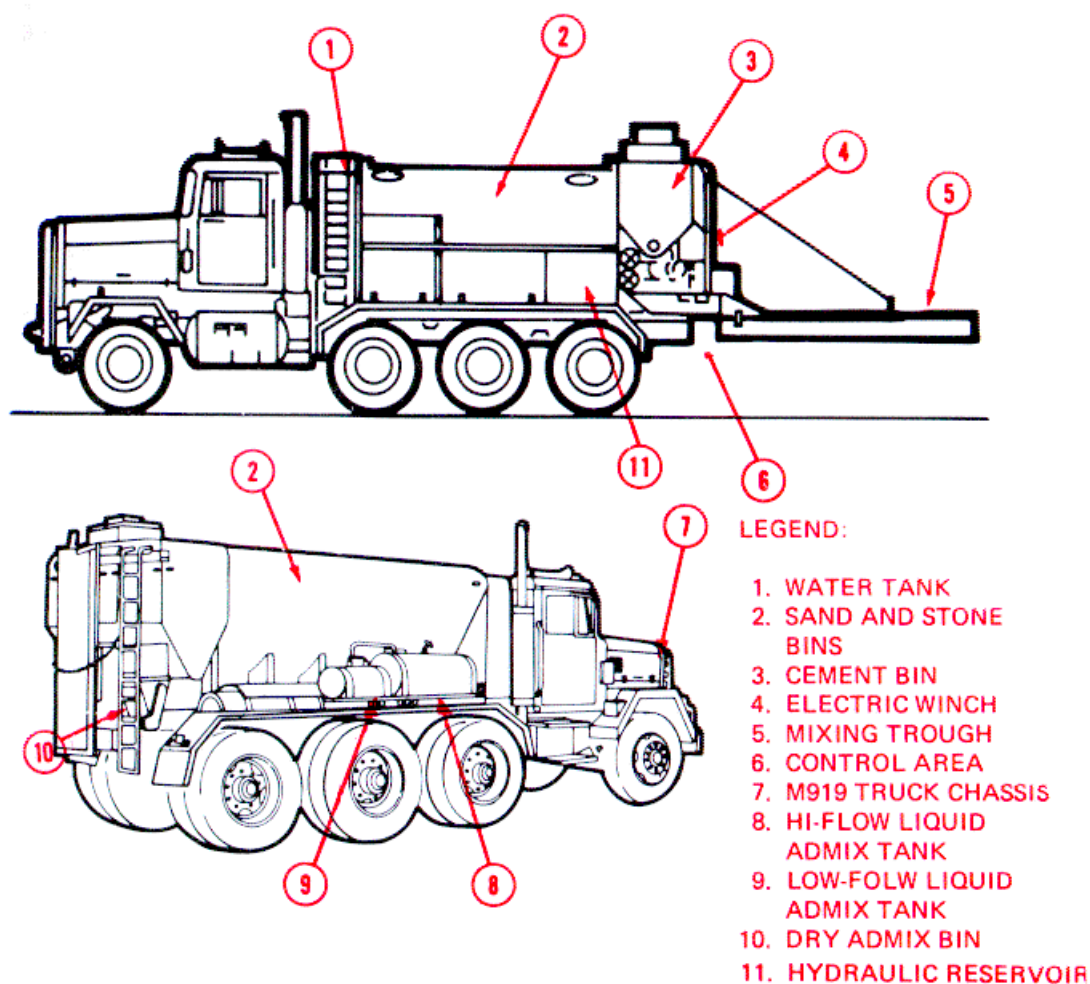

Figure 1-1. Major Components and Their Location
a. Component Locations. Figure 1-1 identifies major components and their locations
c. Major Components. (See fig. 1-1)
(1) Water Tank - The water tank holds 400 gallons (1514 l) of potable (drinkable) water. The water flow is adjusted by a control valve for use in the mix operation. Water in this tank is also used for cleanup after mixing operations.
(2) Sand and Stone Bins - The sand bin and stone bin are actually two compartments of the same vessel. The sand bin portion (left side), holds 40 percent of the total aggregate carried by the mixer. The stone bin portion (right side), holds 60 percent of the total aggregates. Since damp sand has a tendency to bridge over the conveyor, the bins have a shaker system to break up packed sand. The main conveyor belt carries sand and stone from the bottom of the bins to the mixing trough.
(3) Cement Bin - The cement bin holds 63 cubic feet (1.78 m³) of dry cement for mixing up to 8 cubic yards (6.12 m³) of cement. The bin contains an aerator system for "fluffing" the cement. Fluffing is necessary because cement has a tendency to pack, especially during transport. The bin also has an auger and a feeder. The auger conveys cement to a rotary type feeder. The feeder dispenses cement onto the main conveyor belt.
(4) Electric Winch - The electric winch raises and lowers the mixing trough, and supports it during cement production.
(5) Mixing Trough - The mixing trough mixes dry and wet ingredients (sand, stone, cement, water and admixtures). They are mixed into concrete by an auger located in the trough. The auger also conveys the mixed concrete to the chute for placement
(6) Control Area - Mixer controls are clustered at the left rear of the unit. This allows the operator to see the mixing process as he runs the machine. From the control area the operator can adjust ingredient proportions, position the mixing trough, and start or stop the mixing operation.
(7) M919 Truck Chassis - The mixer body is mounted on an M919 truck chassis. The mixer unit is powered by the truck engine. For more information, see TM 9-2320-273-10.
(8) Hi-Flow Liquid Admix Tank - The hi-flow admix tank holds 42 gallons (159 l) of admixture solution for injection into the mix.
(9) Low-Flow Liquid Admix Tank- The low-flow admix tank holds 12 gallons (45 l) of admixture solution for injection into the mix. This tank serves the same purpose as the Hi-Flow tank but is used when smaller quantities of admixture are needed.
(10) Dry Admix Bin - The dry admix bin holds 2.35 cubic feet (0.66 m³) of powdered admixture. Augers in the bin guide the powder into a feeder shaft. The feeder delivers the admixture to the main conveyor belt. The dial setting on the bin determines the delivery rate.